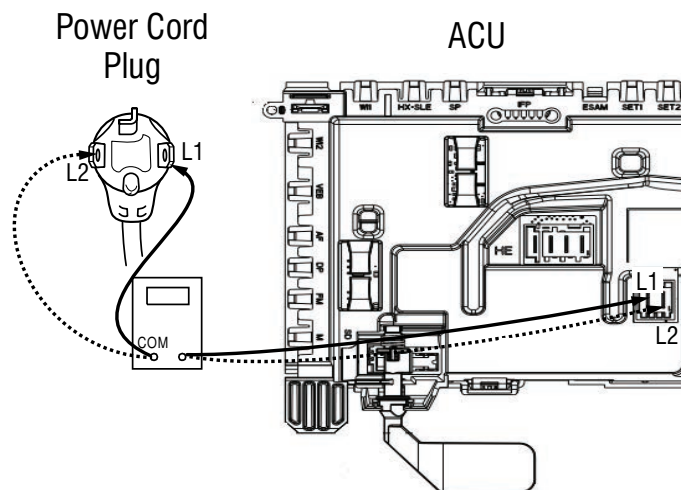

Figure 4
3. With an ohmmeter, check the continuity from L1 and L2 plug terminals of the power cord to the terminals for L1 and L2 on the ACU. See figure 4.